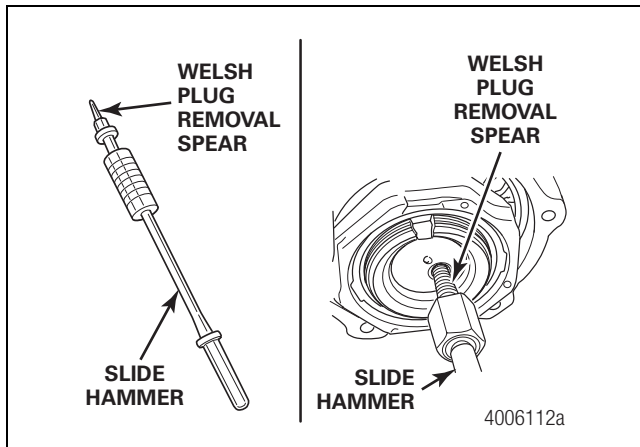

Figure 2.8
5. Use a slide hammer fitted with the welsh plug removal spear to remove the spindle welsh plugs from both ends of the axle. Use care not to score the inside diameter of the spindle bore. Figure 2.8. A slide hammer and welsh plug removal spear are available from Meritor to help remove these plugs. Refer to Section 8 for part numbers of special tools and supplies.